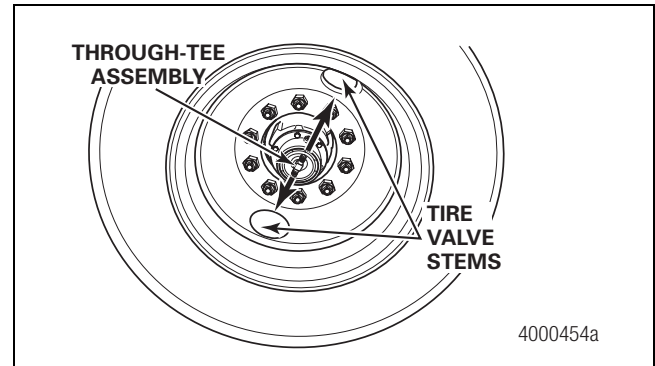

Figure 6.6
5. Follow the wheel manufacturer's instructions to reinstall the wheels. Verify that the through-tee fittings point TOWARD the tire valve stems to ensure that you'll be able to correctly route the tire inflation system hoses. Figure 6.6.